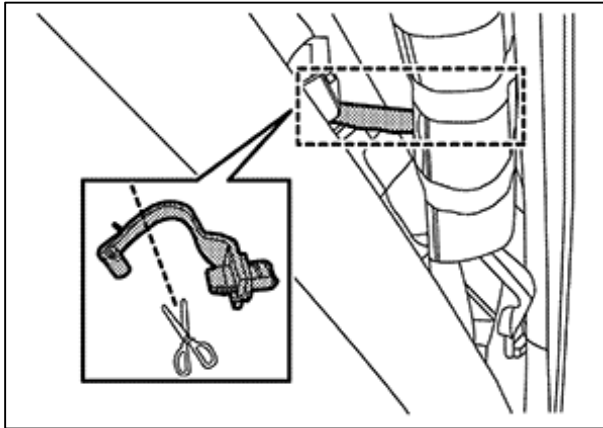
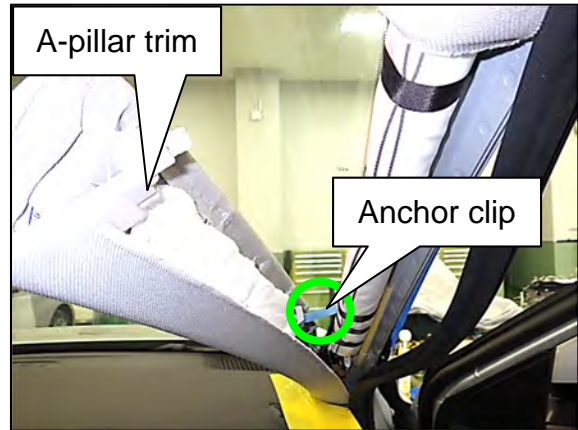

Figure 108
Figure 109
74. Cut the anchor clip, as shown in Figure 108 and Figure 109.